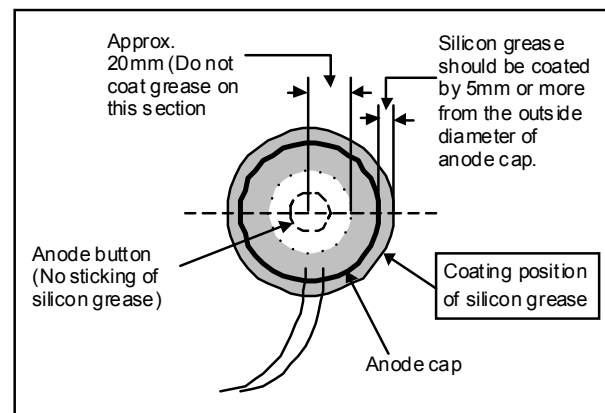

Fig. 7
- Coat silicon grease on the section around the anode button. At this time, take care so that any silicon greases do not stick to the anode button. (Fig.7)